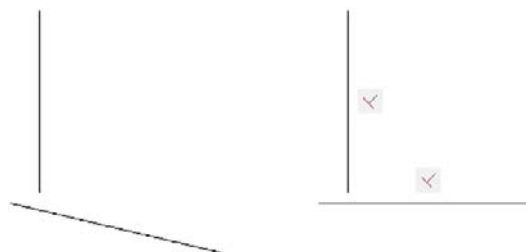

FIGURE 13.12
- Step 1.** Draw two lines that are roughly perpendicular, as seen in Figure 13.12 (left).
Immediately after the selection of the second line, you see it snap to perpendicular and two sets of geometrical constraints are added next to each line, as seen in Figure 13.12 (right). Note that if you selected the bottom line first, then the vertical one would snap to it, not the other way around. Selection order matters.